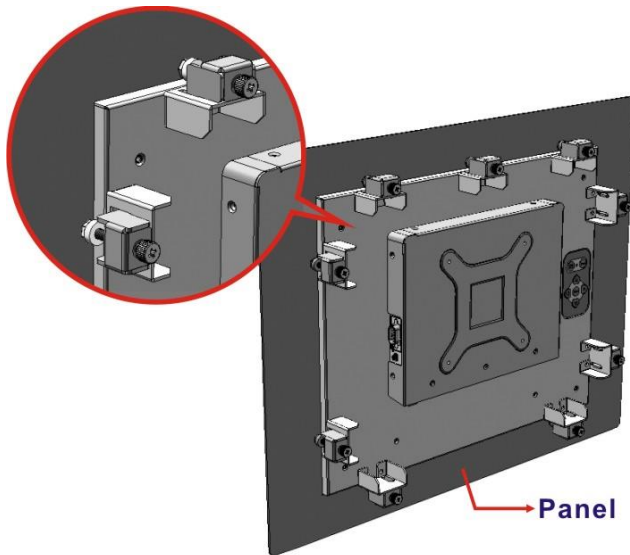

Figure 3-26: Panel Mounting Clamp Installation
Step 5: Insert the panel mounting clamps into the pre-formed holes of the clamp holders (Figure 3-26).
Step 6: Tighten the screws that pass through the panel mounting clamps until the plastic caps at the front of all the screws are firmly secured to the panel (Figure 3-26).